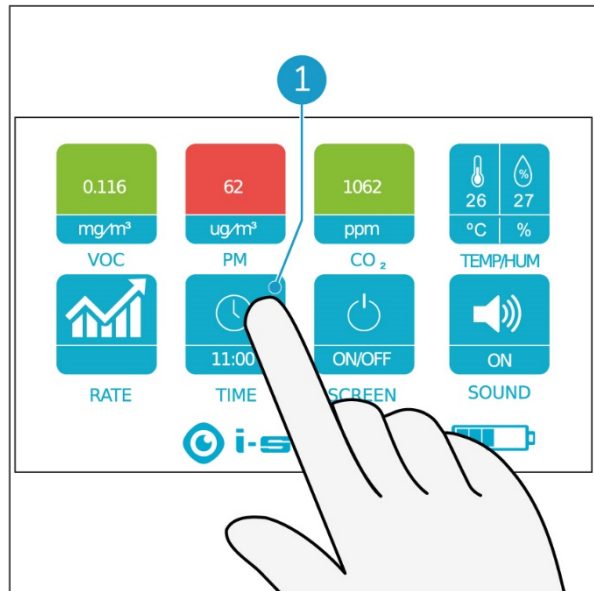

Figure 20
1. Touch the TIME button (Figure 20, pos 1) with your finger.